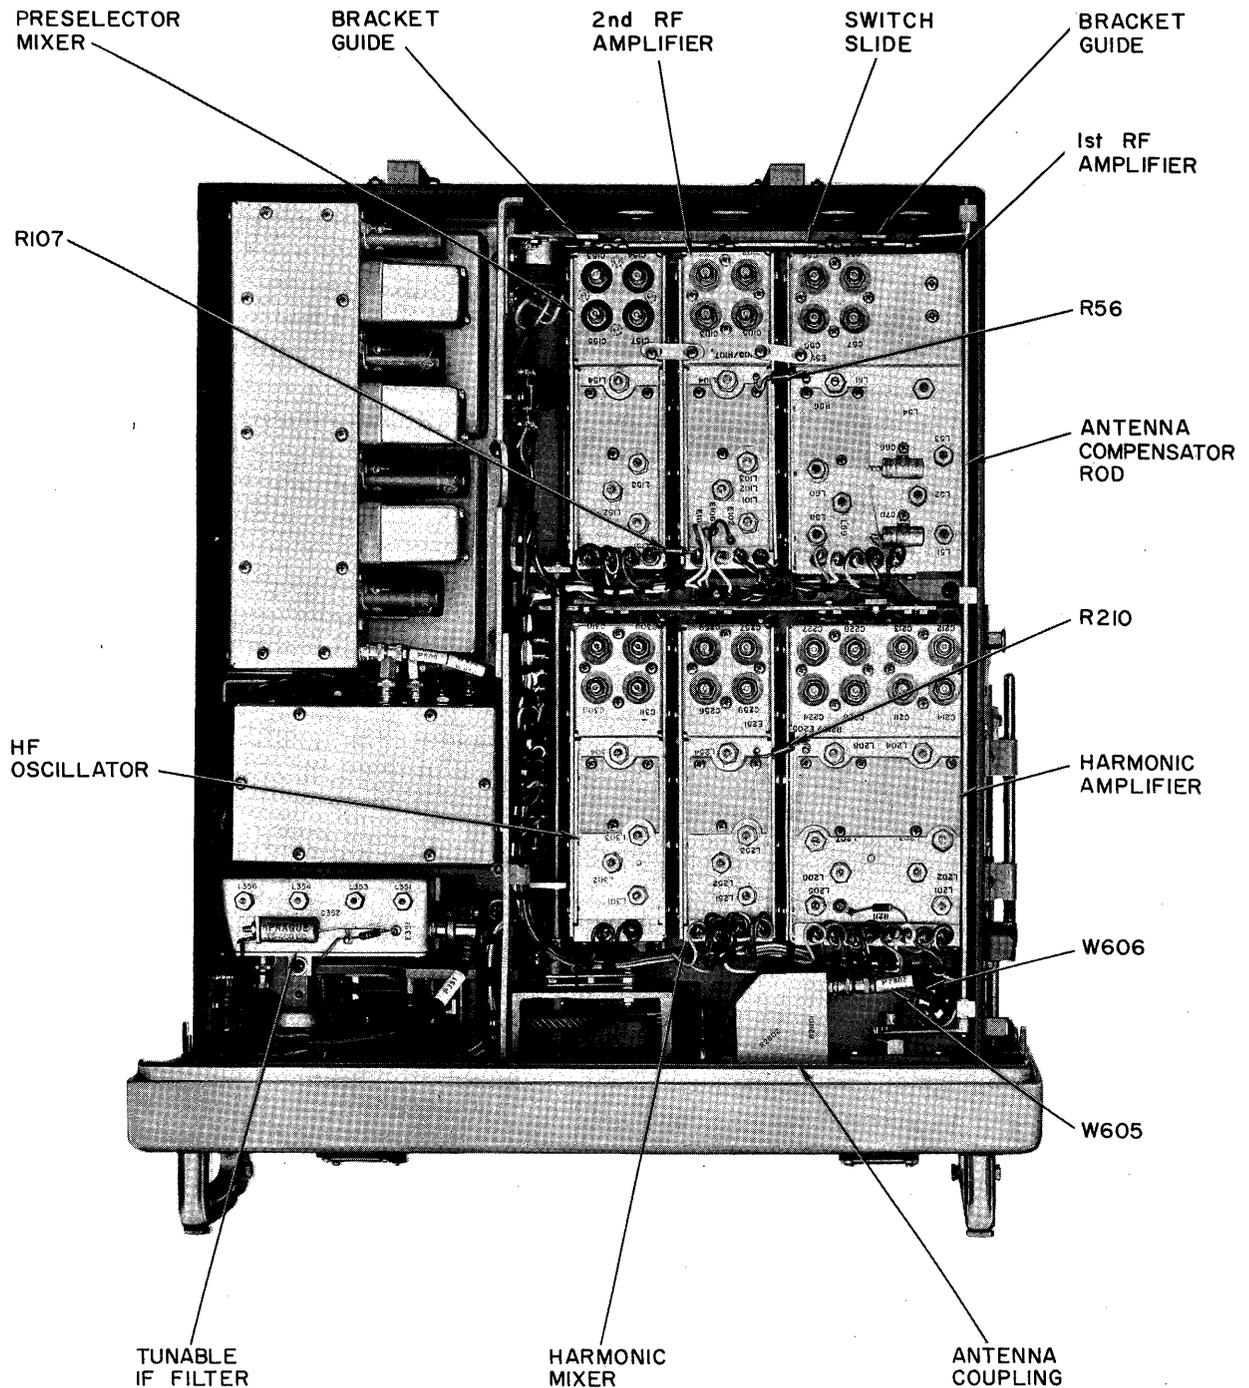

Figure 6-3. Converter Drawer, Lower Deck, Bottom View
9. Connect P2801 of coax cable W606 to jack J2801 and P2802 of coax cable W605 to jack J2802 (figure 6-3).
1. Pull out the converter drawer and tilt the entire unit 90 degrees, exposing the bottom of the lower deck. The tunable IF filter located at the left corner of the lower deck (bottom section), just back of the front panel, is now available for removal (see figure 6-3).
3. Place the filter unit in position at the bottom left of the lower deck bottom (figure 6-3), with its mounting holes corresponding with those in the lower deck, and secure the filter to the deck. Make sure, in installing the tunable IF filter, not to disturb the dot alignment of step 1.